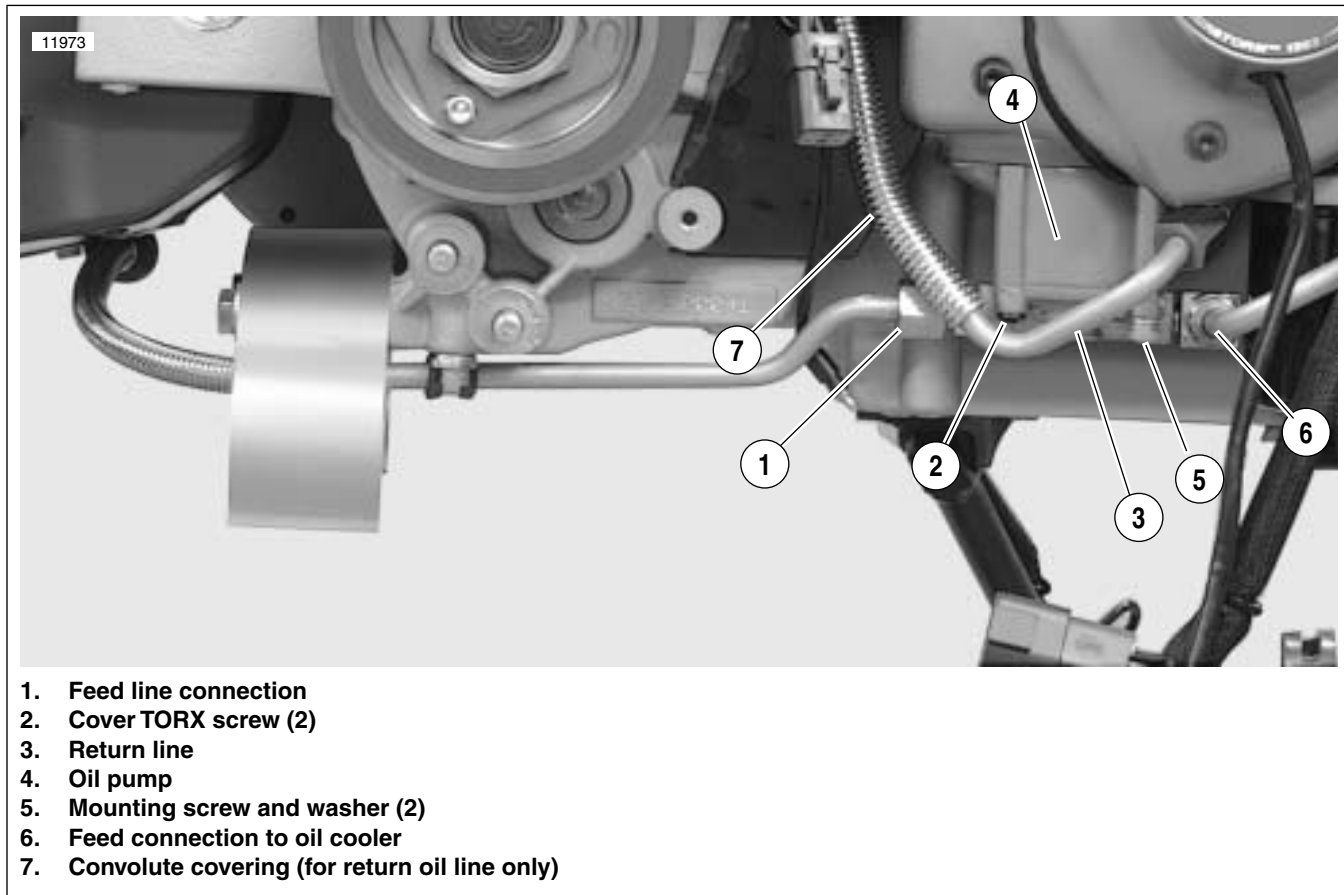

Figure 3-119. Oil Pump Hardware
3. See Figure 3-119. Disconnect feed line connections (1 & 6) on both sides of the oil pump.
4. Detach return line connection (3).
5. Carefully remove mounting screws (5) and washers only. Pump will drop with screws removed. Discard mounting gasket.
6. Remove cover TORX screws (2). Lift cover off body.
10. See Figure 3-119. Attach return line connection and tighten to 22-24 **ft-lbs** (29.8-32.5 Nm).